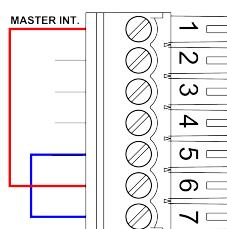

Figure 2.12: Permanently *Interlock*(not recommended)
- Input activated permanently(Fig. 2.12). This connection can be used for initial testing *Digital IN* but is not recommended during normal device operation .